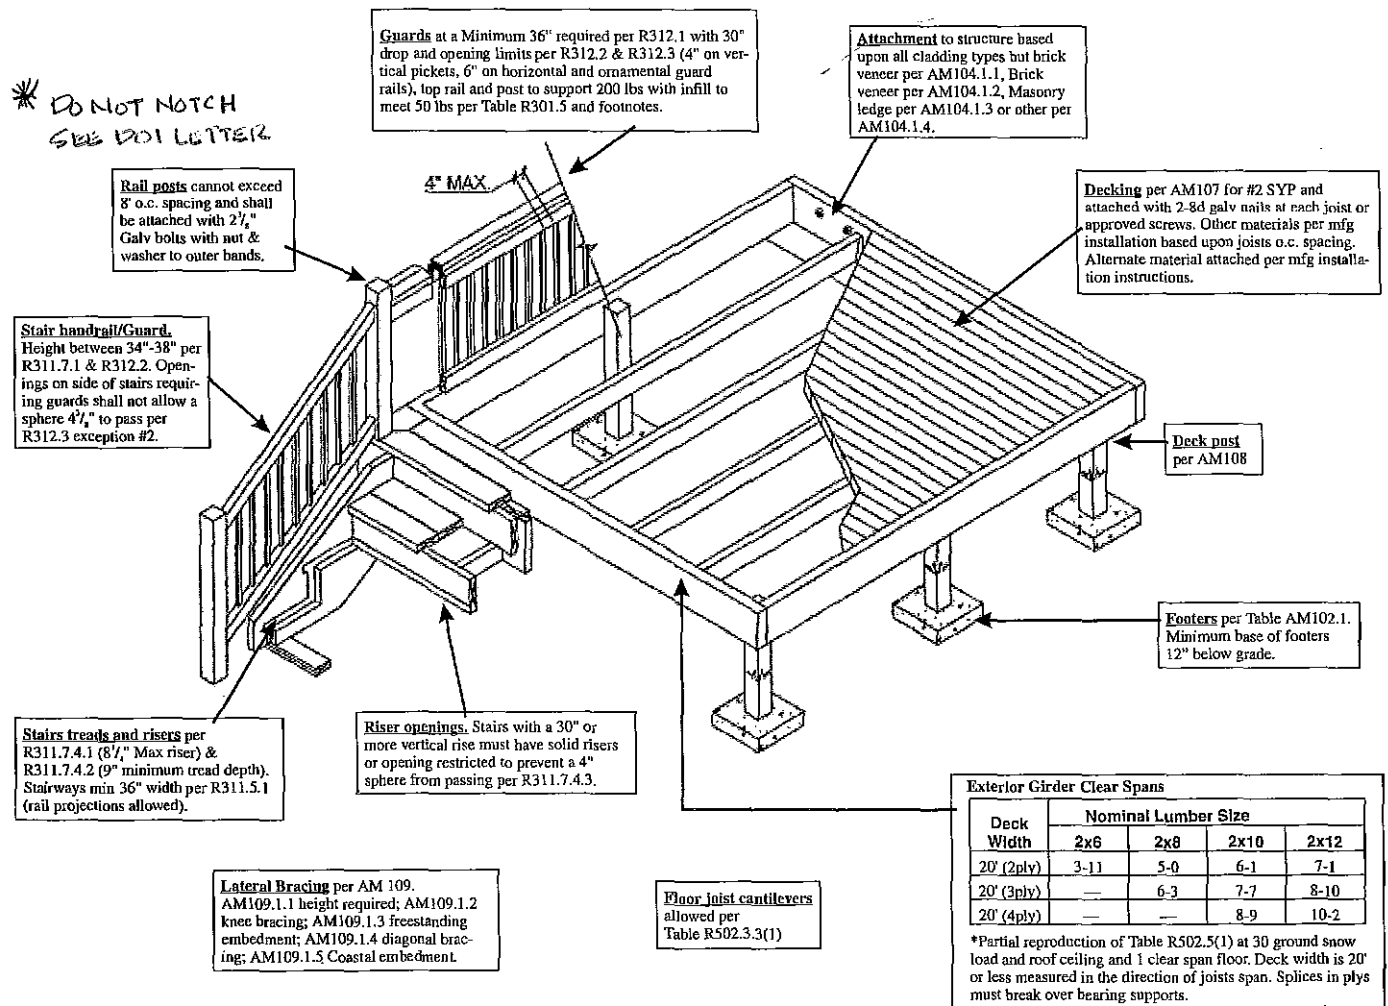

FIGURE AM111
**AM111.1** Handrails, guards and general. Deck handrails, guards and general construction shall be per Figure AM111.